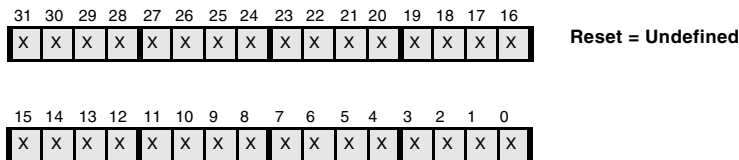

Figure 6-10. Instruction Test Data 1 Register
- Figure 6-10, “Instruction Test Data 1 Register,” on page 6-24